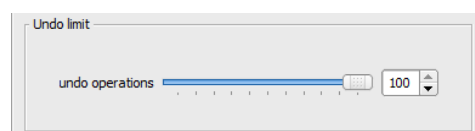

Figure 10.2.: Undo limit options
**Warning!** The deletion of scene objects is irreversible! Because remembering all those previous actions costs precious memory, this function is adjustable to individual computer power (see Figure 10.2).